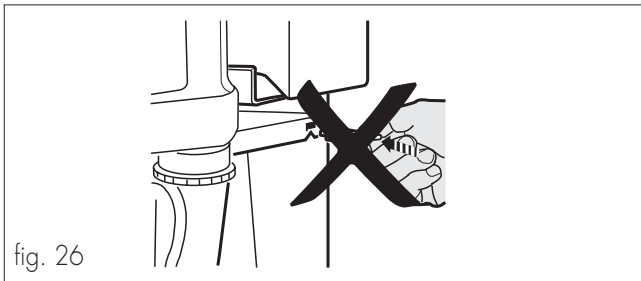

fig. 26
It is absolutely forbidden to perform cleaning or maintenance operations with the micro-switch operation key (ref. 17, fig. 1) inserted (fig. 26).